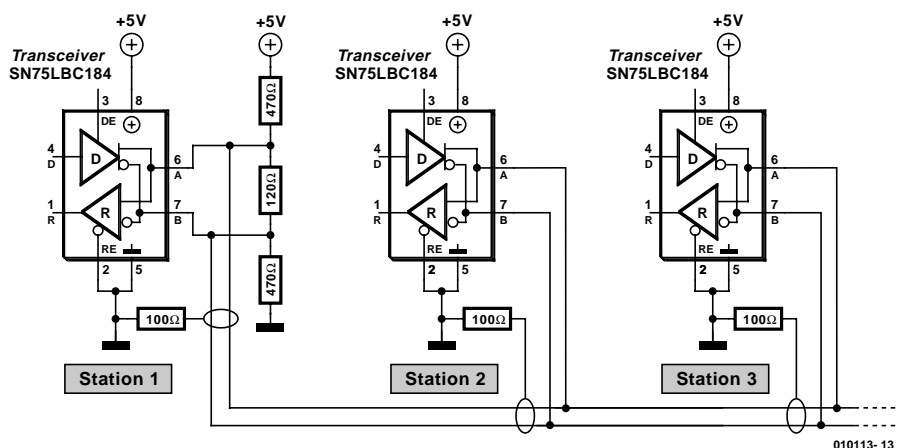

Figure 1. An example of an RS485 network.
**Figure 1** shows an example of an RS485 network. At the start of the network we can see three resistors: two of 470  $\Omega$  and one of 120  $\Omega$ . These resistors keep the voltage stable on the bus when no drivers are active.